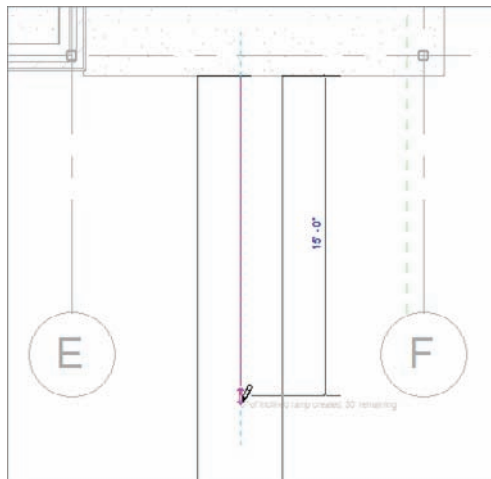

FIGURE 10.85 Pick the first point on the landing and then move your cursor down 15'-0" (4500mm).
16. In the model, click the first point for the ramp similar to the point shown in Figure 10.85. (You will have to just place the point near the midpoint. Revit does not allow you to snap while in this Sketch Mode for some reason.)
17. Move your cursor down the view (in a southerly direction) 15'-0" (4500mm), as shown in Figure 10.85. (You will see the temporary dimension.)